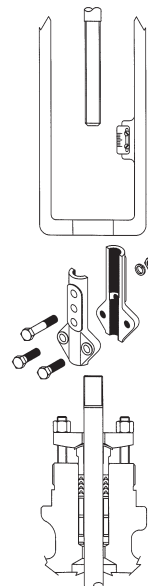

FIGURE 1 Actuator Removal
2. Disconnect the actuator coupling from the valve stem by disengaging the coupling screws (Figure 1). Disconnect air supply.